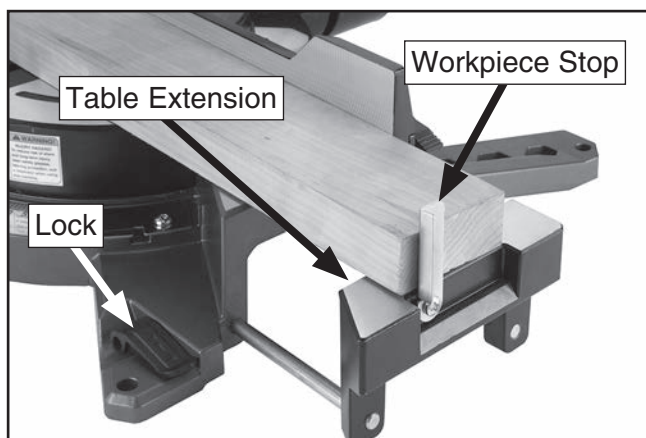

Figure 43. Table extension supporting long workpiece.
1. Lift table extension lock (see **Figure 43**) then pull to extend. Press lock to secure extension in position.
2. Lift stop to secure workpiece so it is not dislodged by pressure of blade (see **Figure 43**).
1. Lift fence extension lock (see **Figure 43**), then pull to extend. Press lock to secure fence in position.